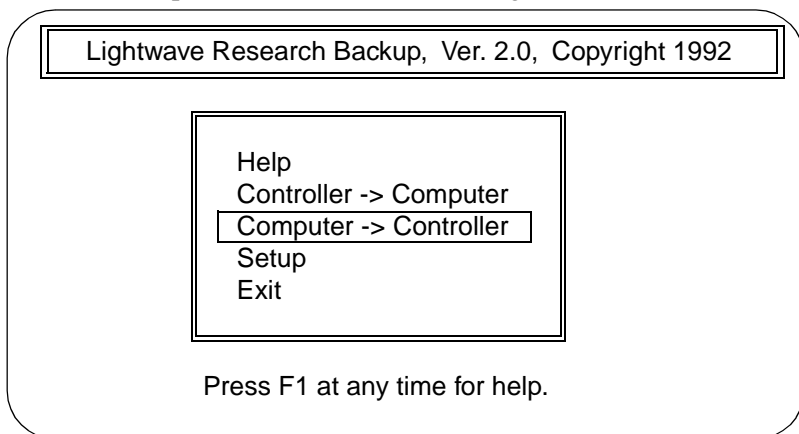

Figure 7-6. Restoring memory from a file stored on a computer to the controller.
1. Use your computer's <Up> and <Down> arrow keys to select **Computer->Controller** from the Lightwave Research Backup main menu, as shown in Figure 7-6: